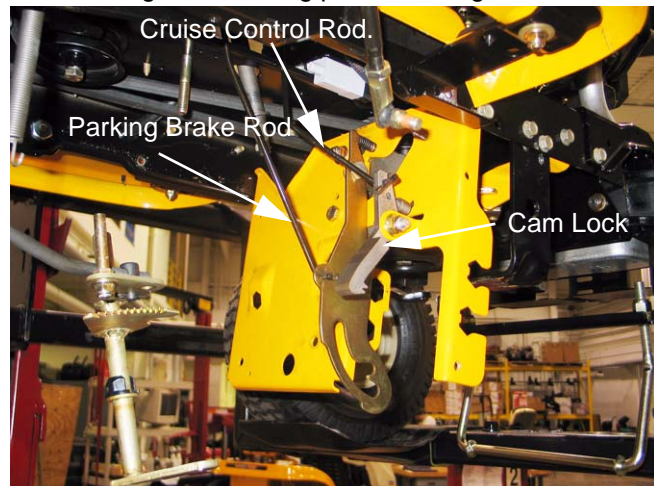

Figure 16.20
16.20. You now have access to the cruise linkage and cam lock. You also have access the park brake linkage and locking plate. See Figure 16.20.